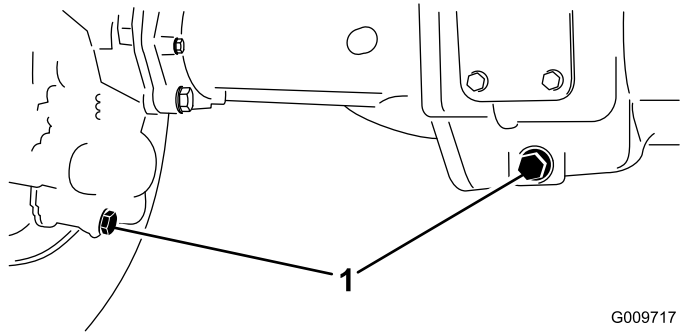

Figure 42
2. Clean the area around the 3 drain plugs, 1 on each end and 1 in the center (Figure 42).